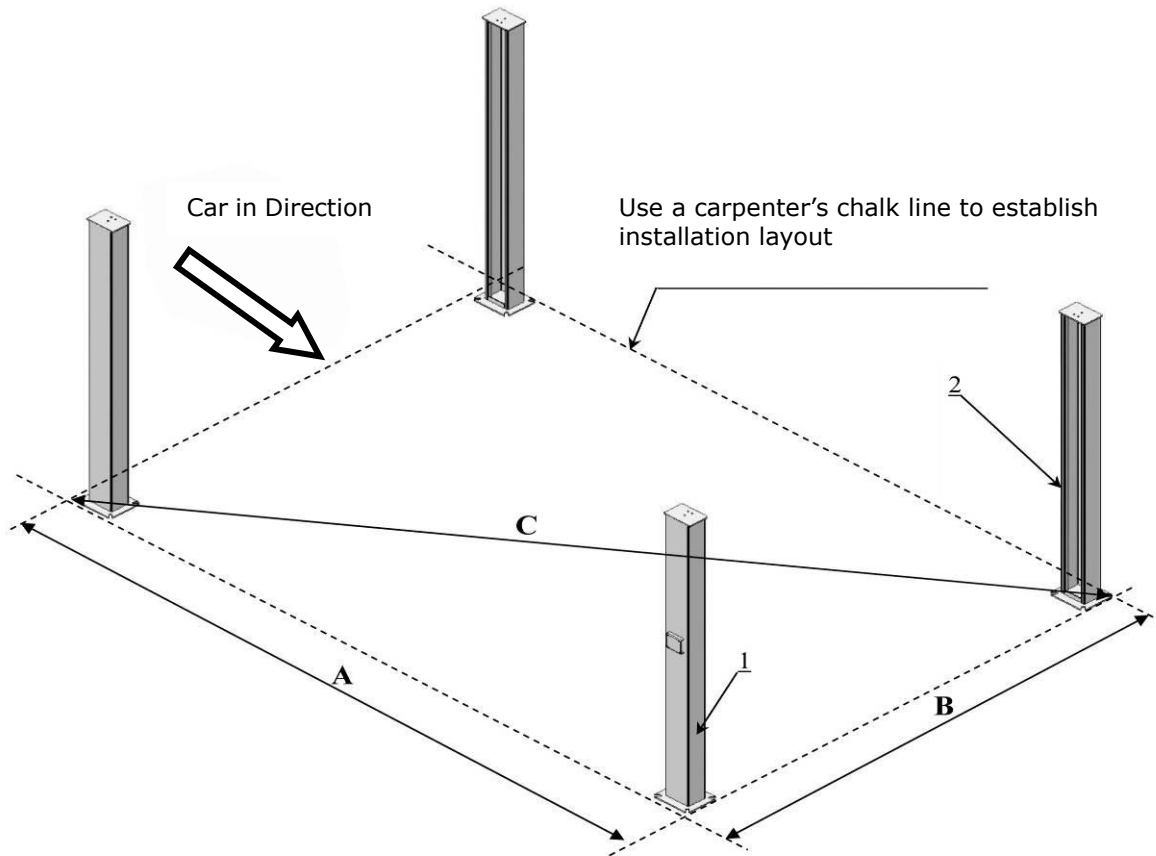

Fig. 13
C. Use a carpenter's chalk line to establish installation layout, Make sure the size is right and base is flat. (see Fig.13)